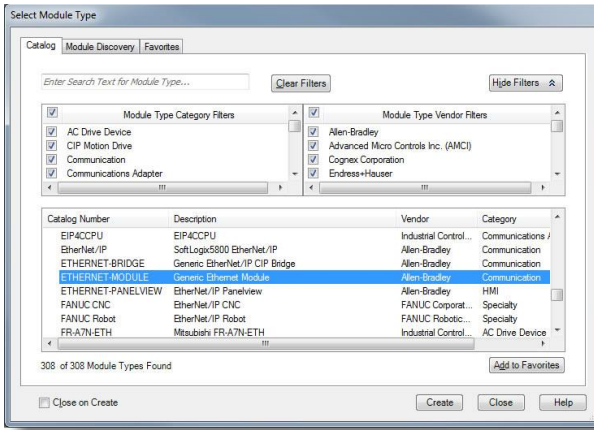

Figure 35: Adding a New Generic Ethernet Module
- 3) Choose "Generic Ethernet Module" in the Select Module dialog box and click "Create". Refer to Figure 35.